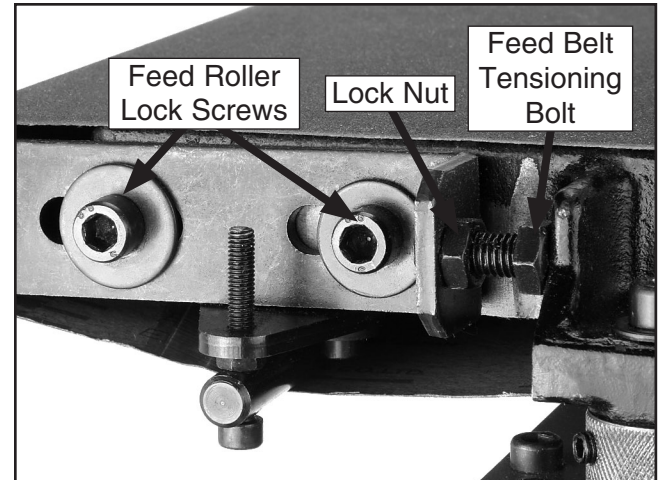

Figure 39. Feed belt tensioning controls.
- Loosen the feed roller lock screws, shown in **Figure 39**, on both sides of the feed belt.
2. Use a permanent marker, paper correction fluid, or fingernail polish to mark the front of the feed belt tensioning bolt (**Figure 39**) on both sides. This step will aid you in returning the bolts to their original position, reducing the amount of tracking necessary.
3. Loosen the lock nuts shown in **Figure 39** and turn both of the feed belt adjustment bolts counterclockwise one full turn at a time to release the tension from the feed belt.